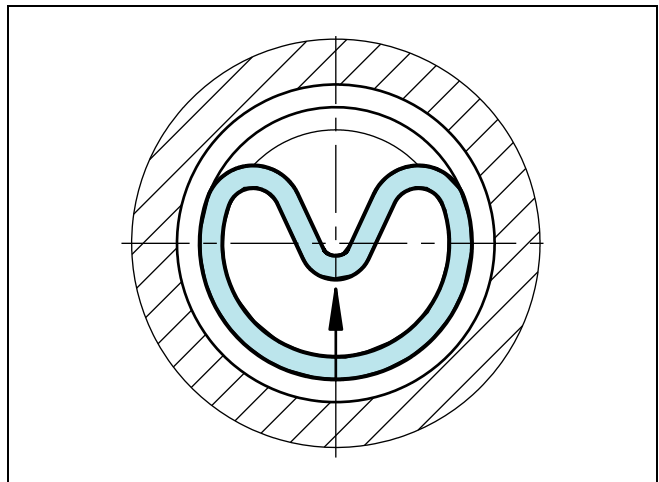

Figure 8 Inserting the seal ring into the closed groove
- Place the seal ring in compressed form into the groove and push against the O-Ring in the direction of the arrow (Figure 8)